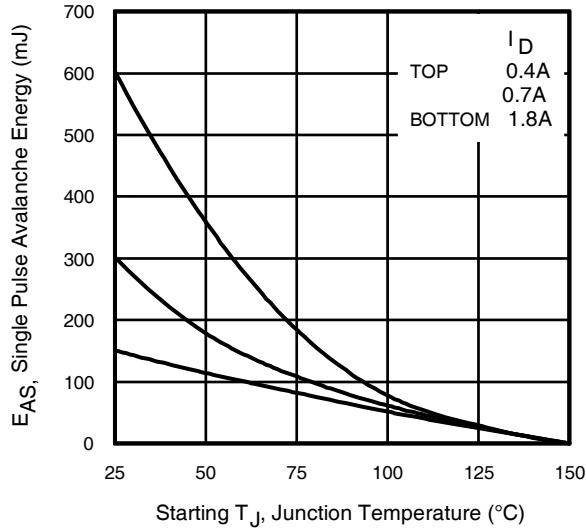

Fig 13. Maximum Avalanche Energy vs. Drain Current
- ② Starting $T_J = 25^\circ\text{C}$, $L = 93\text{mH}$, $R_G = 25\Omega$, $I_{AS} = 1.8\text{A}$. (See Figure 13).
- ③ $I_{SD} = 3.6\text{A}$, $dI/dt \leq 520\text{A}/\mu\text{s}$, $V_{DD}V_{(\text{BR})\text{DSS}}$, $T_J \leq 150^\circ\text{C}$.
④ Pulse width $\leq 300\mu\text{s}$; duty cycle $\leq 2\%$.
⑤ $C_{oss \text{ eff.}}$ is a fixed capacitance that gives the same charging time as C_{oss} while V_{DS} is rising from 0 to 80% V_{DSS} .